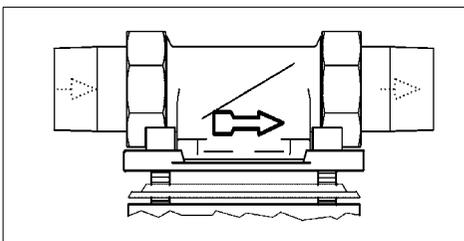

Fig. 1: Fitted rotating flange
- direction of flow (see fig. 1)